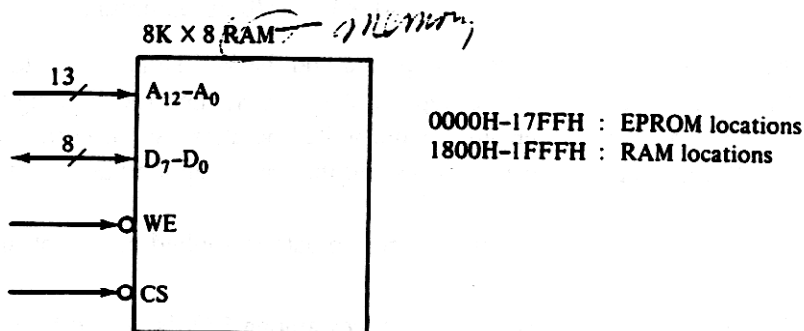

Figure 6.44 Memory module for Problem 6.30.
- 6.30. Construct the memory module of Fig. 6.44 that provides $6K \times 8$ bits of EPROM and $2K \times 8$ bits of RAM. [Hint: Use three 2716 EPROMs and two $1K \times 8$ RAM modules (see Fig. 6.24), a 2-to-4 decoder, and any additional logic that is necessary.]